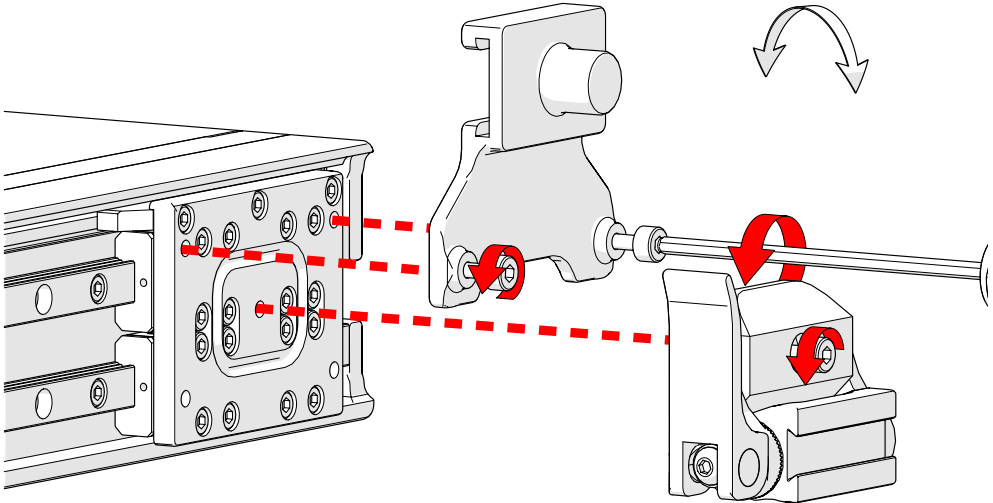

Fig. 146 - Remove pivot nose and carriage bracket
5. Unscrew the single pivot nose screw using the supplied 3 mm hex driver, followed by removing the carriage bracket's two screws (Fig. 146).